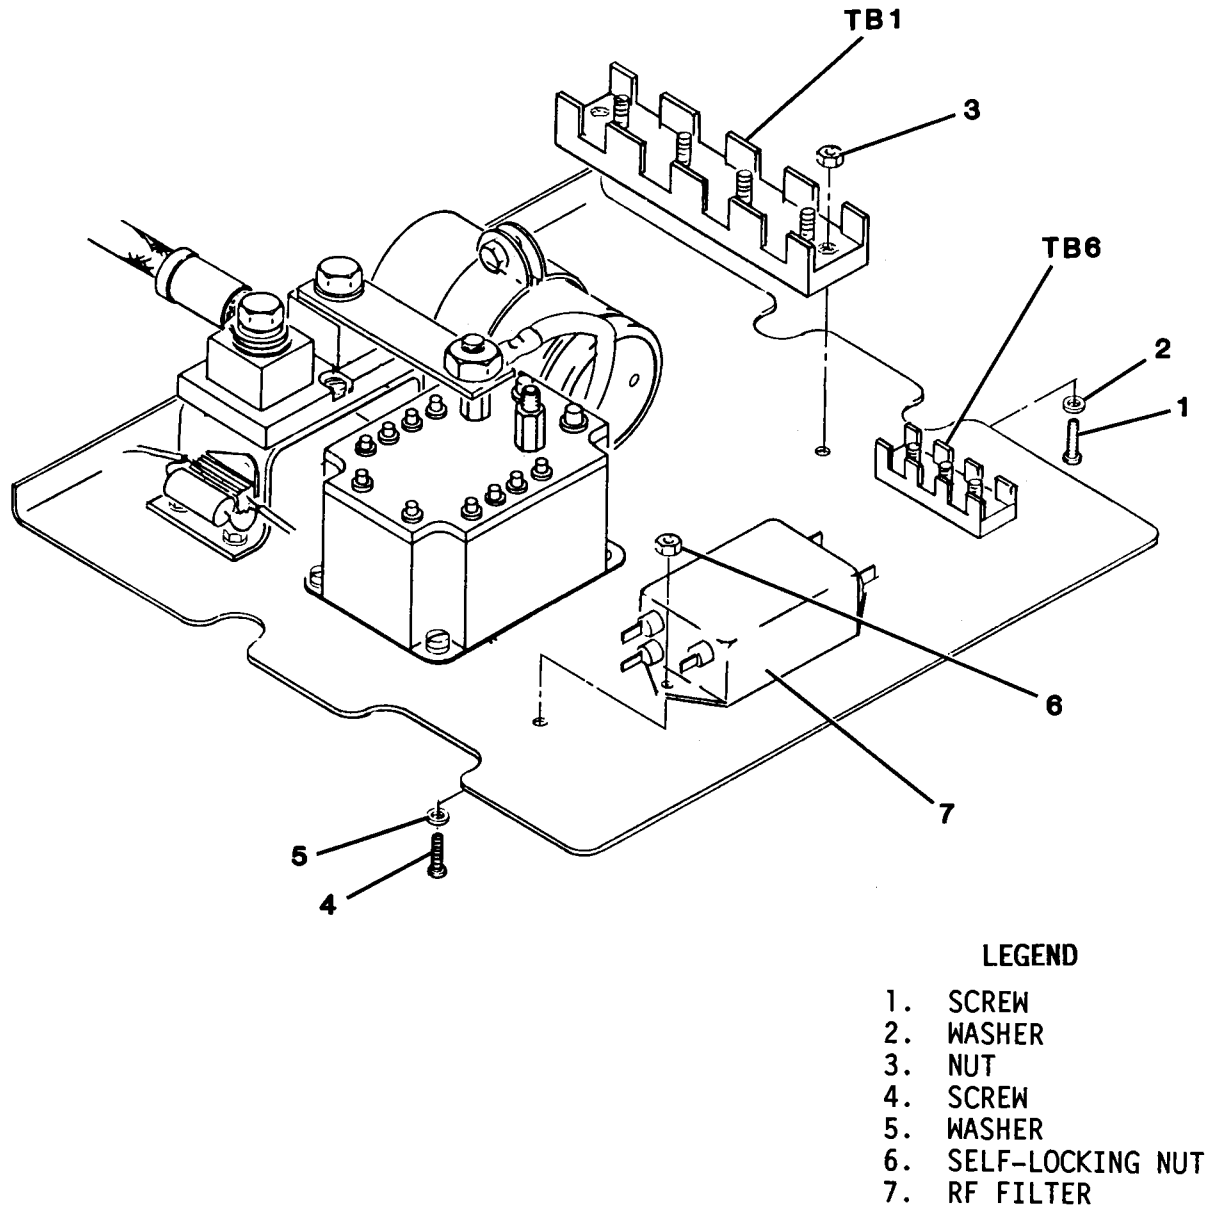

Figure 4-53. Terminal Board/RF Filter (FL1) Replacement
4-85. TERMINAL BOARDS. Maintenance of terminal boards TB1 and TB6 (figure 4-53) consists of inspection and replacement. Procedures are the same for both boards.
(1) Remove component mounting panel (paragraph 4-82).
(2) Tag and disconnect wiring from terminal board to be replaced.
(3) Remove screws (1, figure 4-53), washers (2) and nuts (3) that secure terminal board to component mounting panel.
4-86. RF FILTER (FL1). Maintenance of the RF filter (figure 4-53) is limited to replacement.